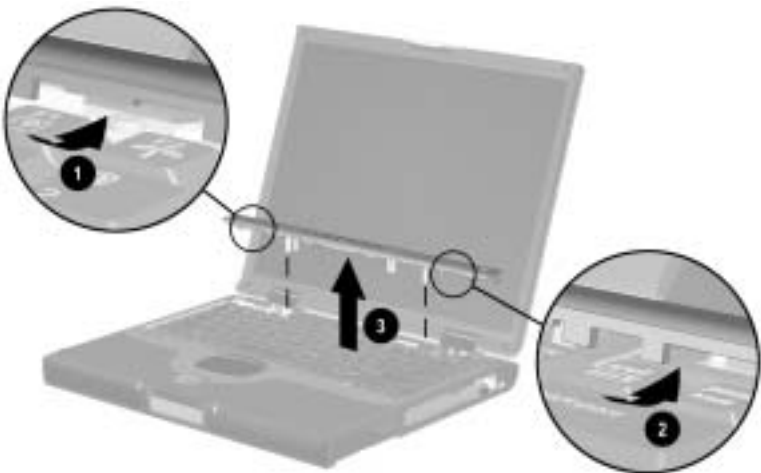

Figure 5-17. Removing the LED Cover
7. Insert a pointed tool into the notch in the LED cover ❶ between the **F1** and **F2** keys and lift up (Figure 5-17).
9. Insert a pointed tool into the notch in the LED cover ❷ between the **Pause** and **Scroll** keys and lift up.
10. Remove the LED cover ❸.